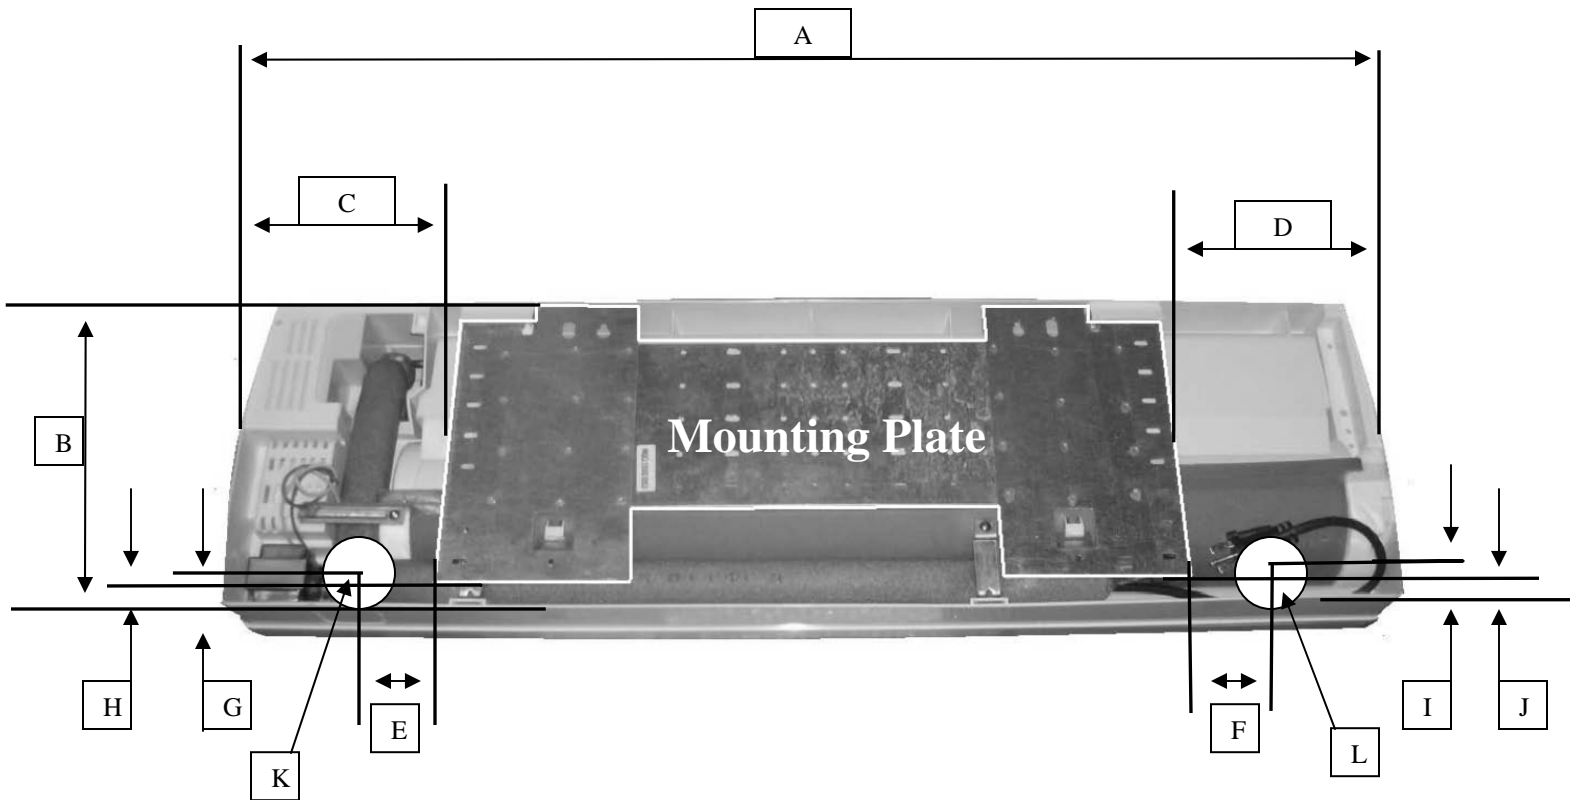

Figure 2
horizontal configuration only. See figure 2 for fan coil and mounting plate dimensions.
3. Drill a diagonal piping access hole (2 .75") in diameter on both sides of the mounting bracket. Refer to figure 2 for field supplied hole locations